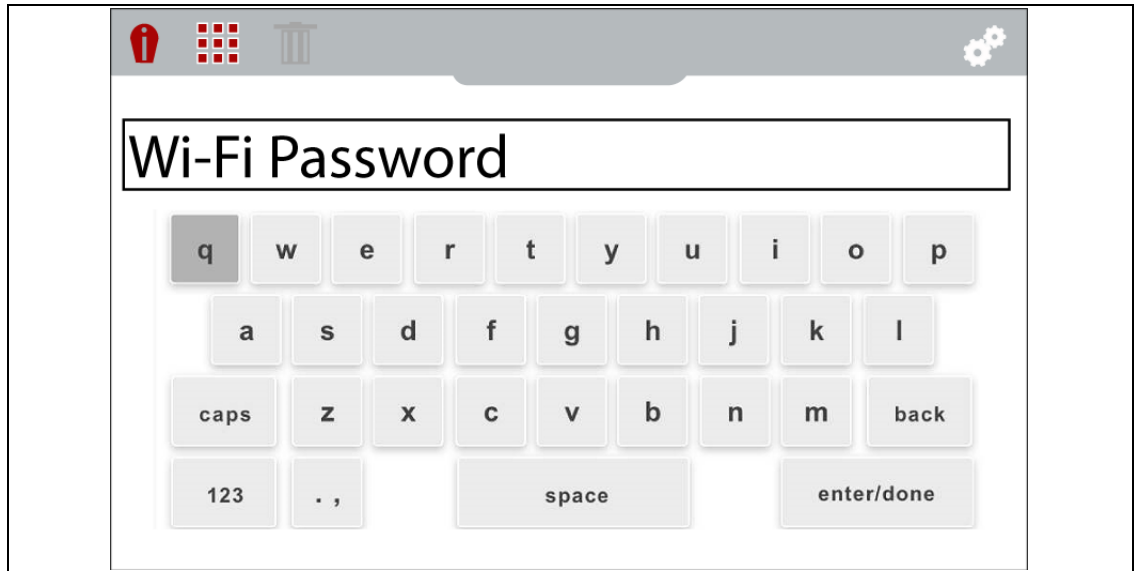

Figure 5-5 Wi-Fi Password Screen
6. If a password is required when choosing a secured (protected)  network, enter the password using the on-screen keyboard and the directional control buttons. Select the “**enter/ done**” key when finished (Figure 5-5).